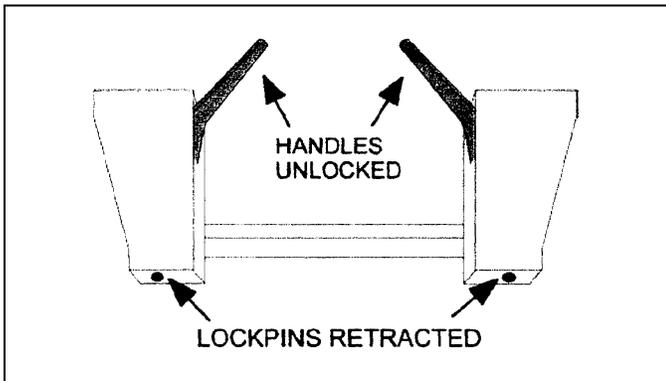

Figure 10 – Quick Attach Coupler Handles – Unlocked
2. The quick attach coupler handles should be in the unlocked position with lock pins retracted, Figure 10.